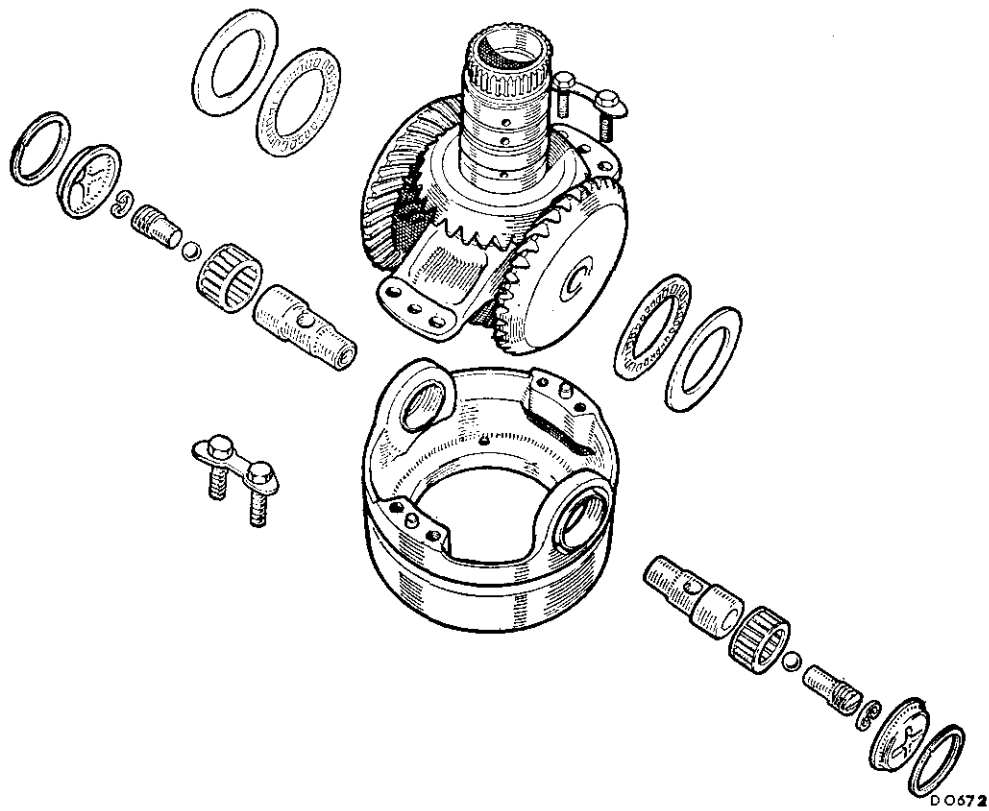

Fig. Fa.43
- (15) Dismantle the assembly, ensuring that all components are retained in their respective positions for reassembly (see Fig. Fa.43).